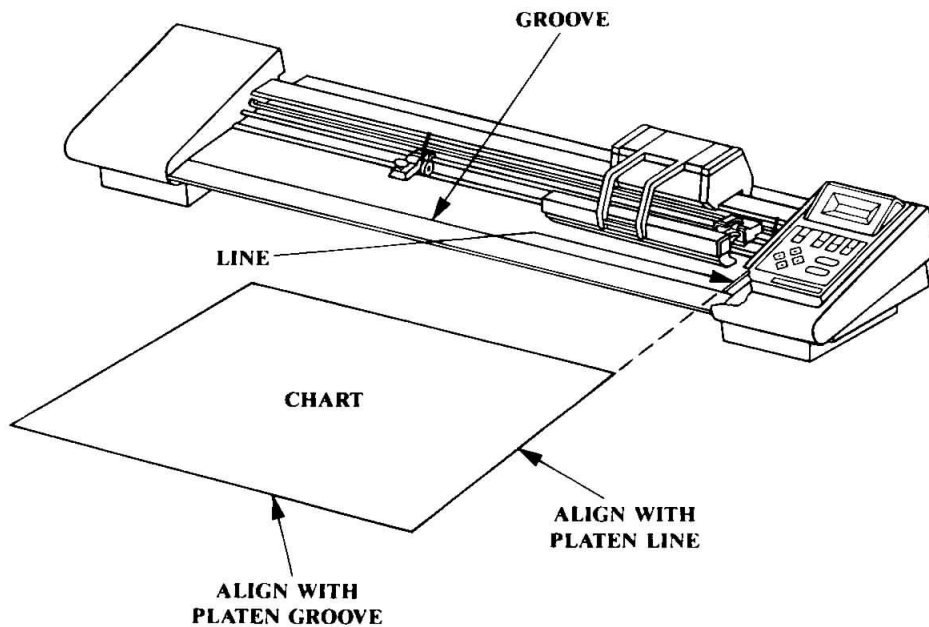

FIGURE 3-3. CUT SHEET CHART LOADING
3. Slide the cut sheet chart under both pinch rollers. Carefully adjust the chart so that its right edge aligns with but does not cover the line on the right side of the platen. Align the front edge of the chart with the groove on the front of the platen. See Figure 3-3. Lower both pinch roller arms to secure the chart in the plotter.